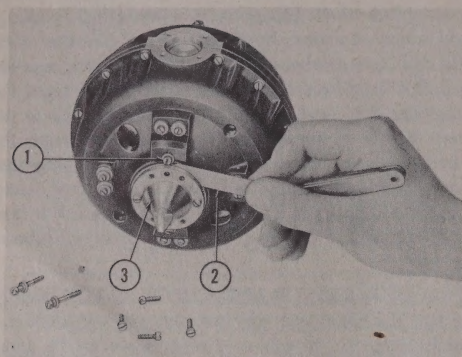

Figure 271 — Measuring for Fit of Locked Rotor Bearing End Cap
1. Drop several thousandths thickness of shims (6) on top of the outer race of the plain end bearing, and insert the plain end rotor case cap (5). Install at least two screws in this cap; pull the screws up tightly so that the outer race of the bearing is pushed up against the bearing clamps. When these screws are pulled up tight, there should be a space between the end cap and the rotor housing. If there is no space here, add several thousandths of additional shims between the end cap in the bearing, and repeat the above steps.
2. Check the space between the flange of the end cap and the rotor housing with a thickness gage as shown in figure 271. Then, removing the end cap, remove from beneath the end cap shims totalling in thickness .0005 inch less than the space measured between the end cap and the rotor case with the thickness gage.